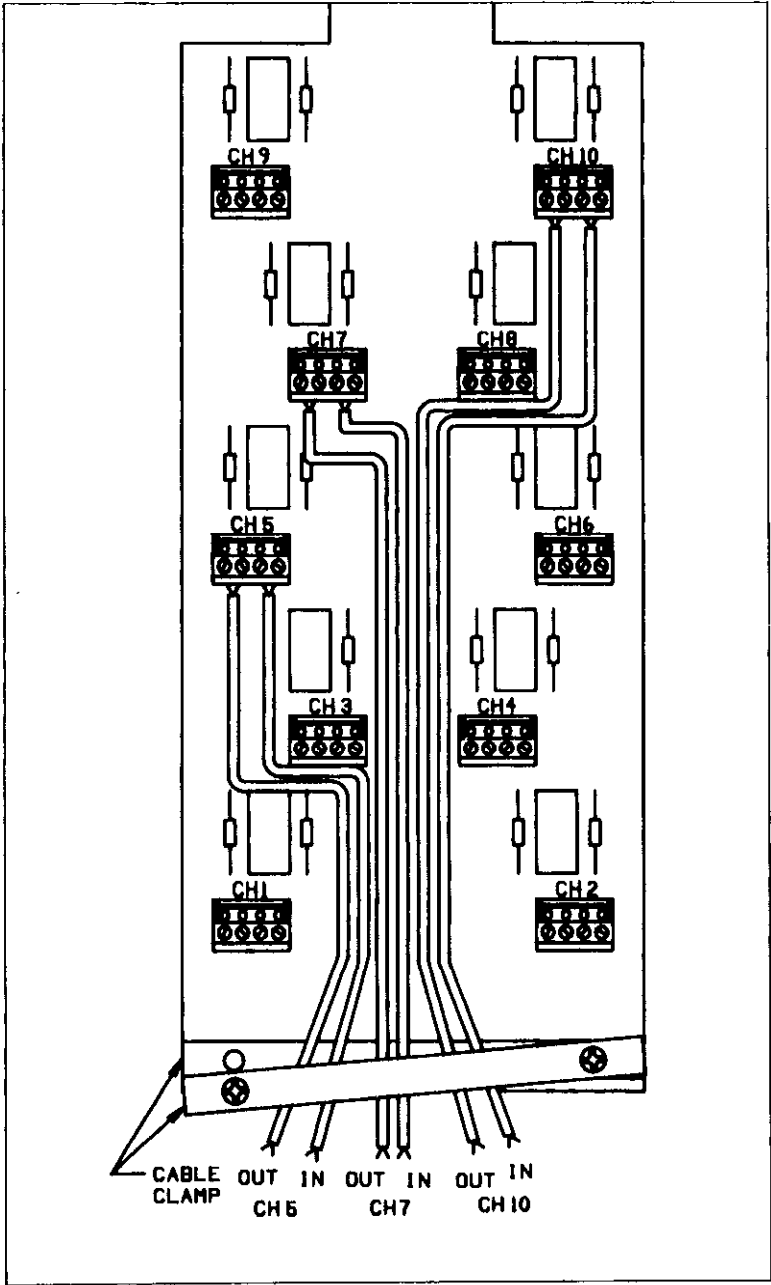

Figure 2-4. Typical Wire Routing
5. Referring to Figure 2-4, remove one screw from the cable clamp of the relay card and route the terminal block wires as shown.